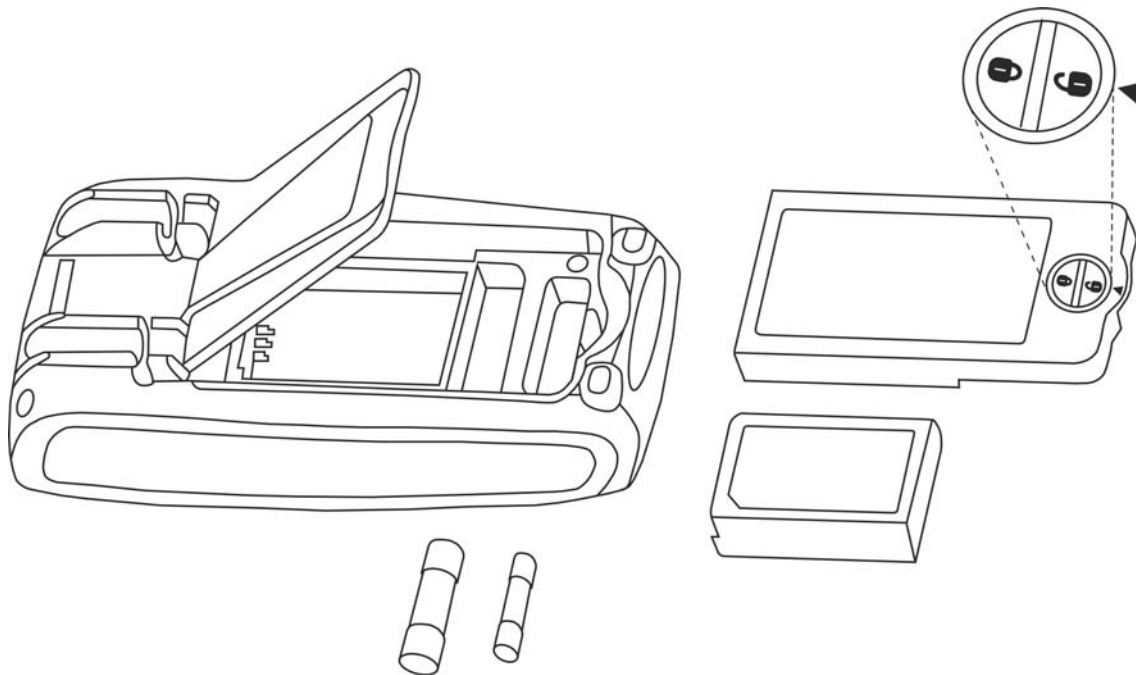

Fig. 32: Replacement of internal fuses
2. Turn the fastening screw of the battery compartment cover from position "1" to position "2" and remove it (see Fig. 32)